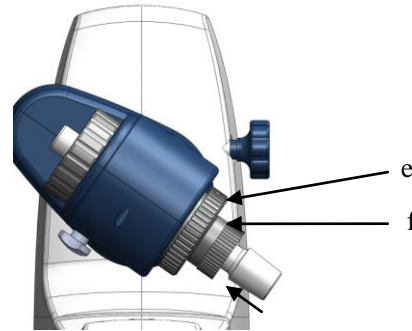

Figure 9
- Open the locking device on the drive head by turning it  $60^\circ$  counter clockwise (e), (Figure 9).
- The plastic screw nut (f) helps loosen tight-fitting piston ground-in connections (Figure 9).